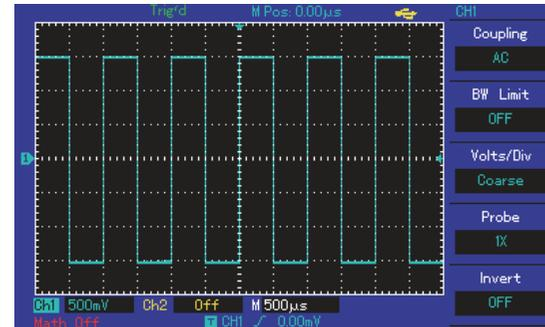

Figure 1-7 Probe Compensation Signal
③. Connect the probe pin and ground clamp to the corresponding terminal of the probe compensation signal. Press **AUTO** key. Within several seconds, square wave display (1kHz, about 3V, peak-to-peak value) is as shown in Figure 1-7. Check CH2 in the same way; press **OFF**